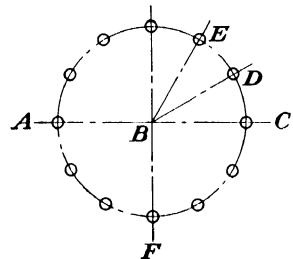

Fig. 107.
4. Figure 107 shows the position of rivets on a circular patch. Calculate the number of degrees in
circular patch in Fig. 107 is a central angle. Name any other central angles in the same diagram.